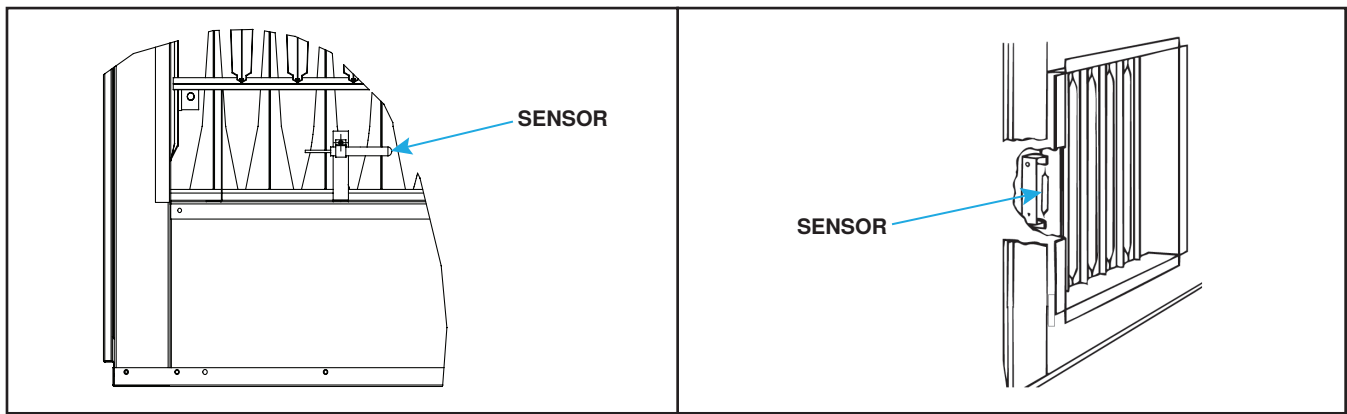

Figure 7. Shipping Locations of Capillary Sensor
Depending on the gas control option, the discharge air temperature sensor is either factory- or field-installed. Field-installed sensors have one of two configurations: a sensor and mixing tube assembly or a sensor holder and junction box assembly. For units with the sensor holder and junction box assembly option, the sensor is normally installed on a bracket in the furnace discharge for shipping but it may be mounted in the cabinet leg (see Figure 7).
- (1) Before connecting ductwork to furnace, remove capillary sensor from its shipping position on furnace (see Figure 7).